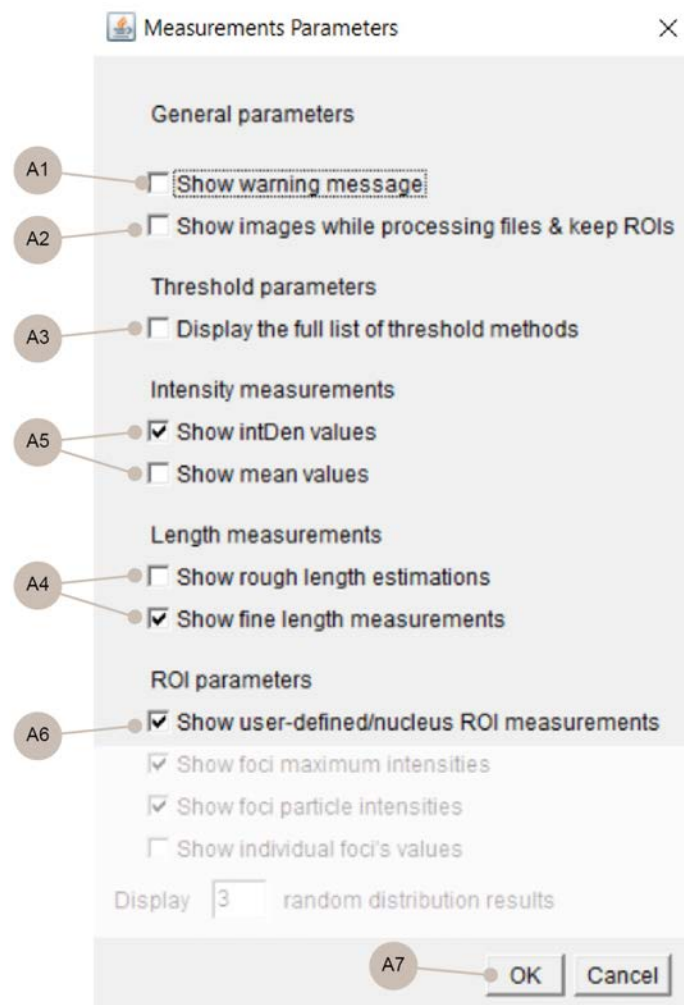

Figure 4.5. The (general) parameters window.
**OPTIONAL STEP A.** Before using the "Measure axis length" tool, you may set the measurements parameters options by clicking on the "Set measurements parameters" button (fig. 0). This will bring up the Parameters menu (Figure 4.5).